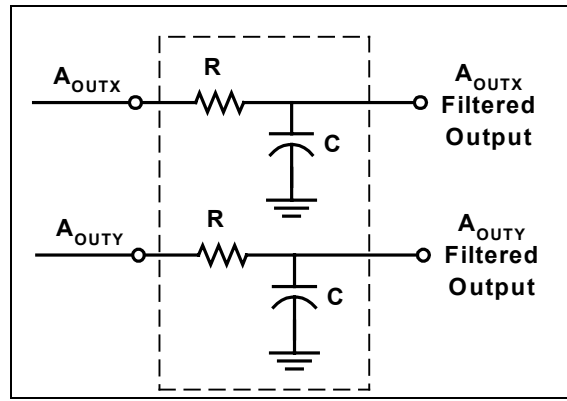

Figure 4: Low Pass Filter
**Low Pass Filter:** An external low pass filter would be useful in low frequency applications such as tilt or inclination. The low pass filter limits the noise floor and improves the resolution of the accelerometer. The low pass filter shown in Figure 4 has a  $-3dB$  breakpoint given by the equation:  $f = \frac{1}{2\pi RC}$ . For the 200 Hz ratiometric output device filter,  $C=0.1\mu F$  and  $R=8k\Omega, \pm 5\%, 1/8W$ .